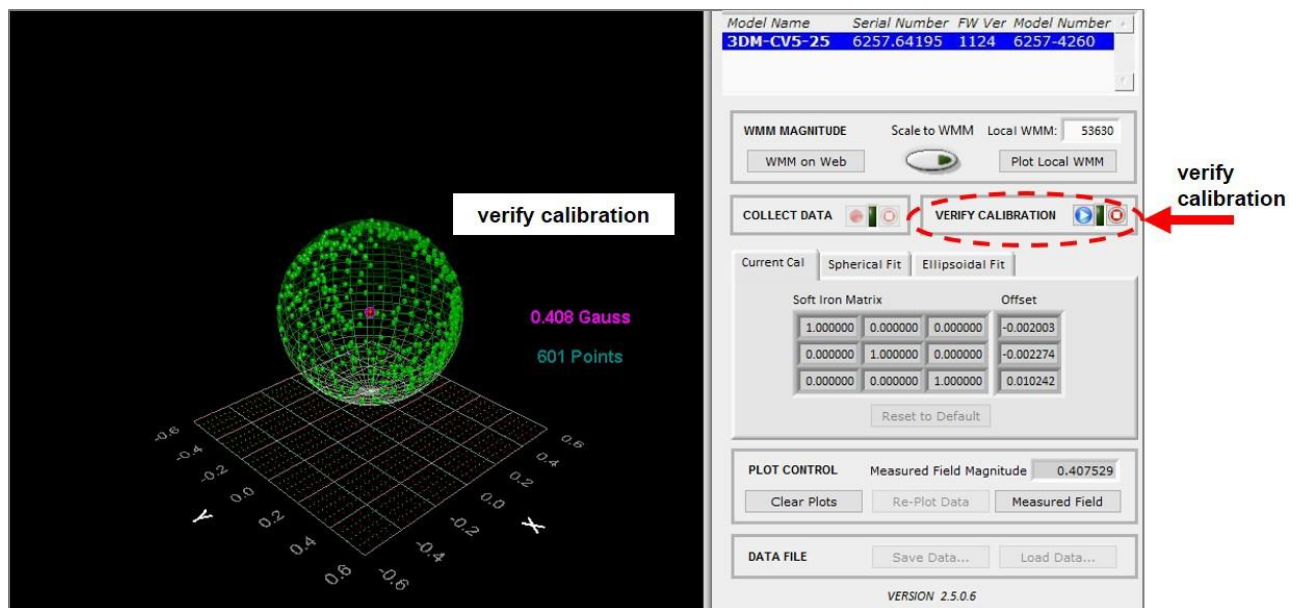

Figure 28 -Verify Calibration
9. Start a calibration verification by clicking the Start Streaming Data button next to Verify Calibration (Figure 28 - Verify Calibration). Rotate the device in all orientations in the same way as during calibration. When completed click the Stop Streaming Data button next to Verify Calibration. The resulting data points should be on or near the spherical grid. Hold the left mouse button and drag to rotate the image. The mouse wheel can be used to zoom in and out. If the fit is not close, the sensor may require re-calibration. If it is close, as shown, calibration and verification is complete.